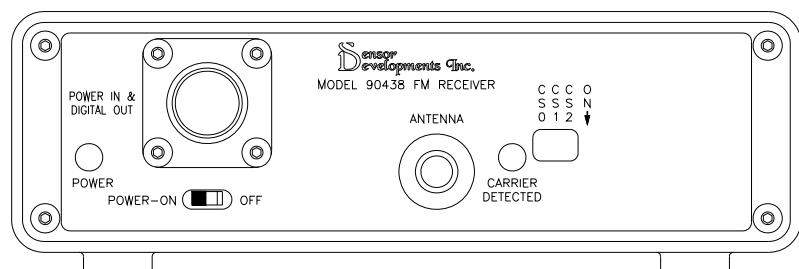

Figure 4. Receiver Connections, side 2
2. Screw the antenna onto the antenna connector on the rear panel as shown in Figure 4.
3. Select the desired channel by the proper switch combination as shown in Table 2. Use Figure 4 as a reference for the switch location. Make sure to set the receiver to the same channel as the transmitter.
4. Connect power to the power input pins as shown in Figure 4. Turn on the power switch and the “power” indicator will light. Maximum input voltage is 16 volts DC.
The unit will receive a digital signal from the transmitter on the channel selected in step 3 above. When this happens, the yellow “carrier detected” indicator will light. The green “good data” indicator will light showing that the digital data were recovered without error. The transmitted data are then fed to the Digital to Analog converter, and on to the corresponding analog output. In the event that the data are found to be in error, the good data light will go out, a beeper will sound a short tone and the good data relay contacts will close. In the event that the unit loses power, the relay contacts will rest in the closed position, indicating an error. The contacts are available at the power connector as shown in Figure 4. When wired to the DAQ system, the relay contacts will indicate a failure in the data transmission. Recording the state of the contacts along with the rest of the data can be helpful during data analysis.